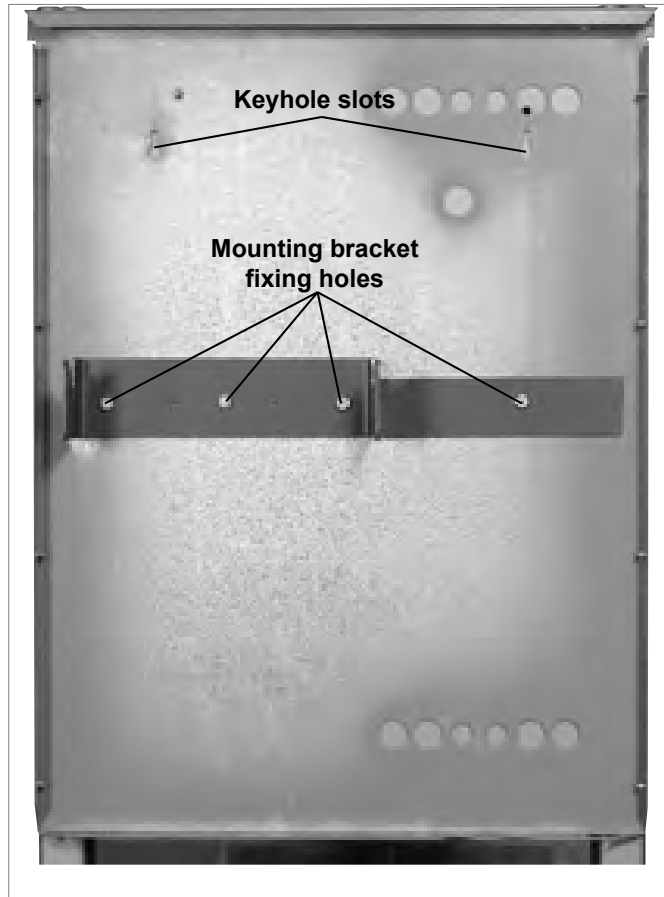

Figure 4-6: Mounting bracket and fixing holes in position on back panel
Figure 4-6 shows the mounting bracket in position on the back casing panel, with the holes in the bracket in-line with the corresponding holes in the back casing panel.
2. Locate and hold the back panel in the required position on the wall. Check it is level using a spirit level on the top flange. Mark position of the holes for the two keyhole slots (See Figure 4-6). Remove the back panel from the wall.